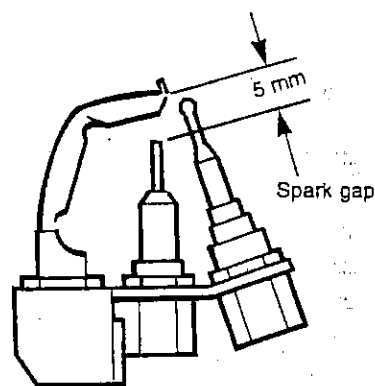

Fig. 19
9. Check the spark gap is 5 mm (see Fig. 19).
Disconnect the lead from the electrode, unscrew the nut and withdraw the electrode. It will be necessary to remove the thermocouple first. Fit the new electrode and check the spark gap (see Fig. 19).